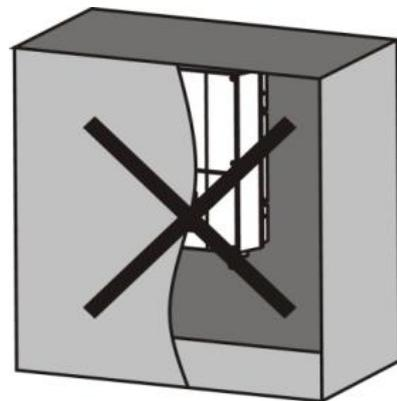

FIG.6-2 Forbid to Install in Small Closed Cabinet
10) Do not install in small closed cabinet where air cannot circulate freely. Do not put any other objects on the inverter, as per FIG.6-2.